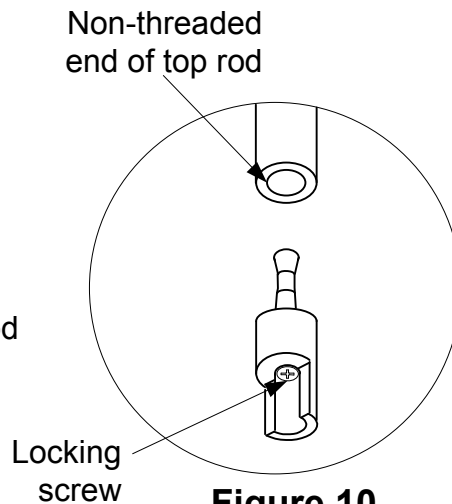

Figure 10
4. Insert the rod connector into the non-threaded end of the top rod and secure in place by tightening the locking screw (see figure 10).